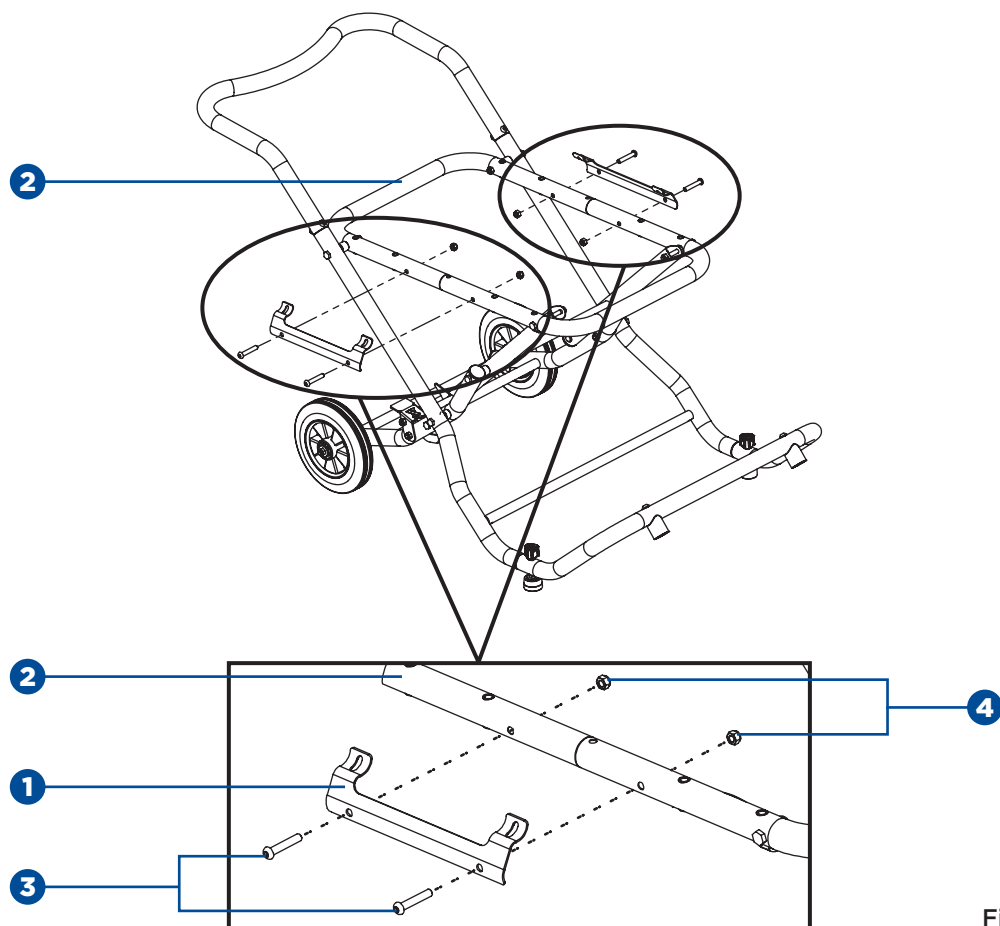

Fig. 5
**TO ASSEMBLE THE SUPPORT A (FIG. 5)**
- Align the holes on the support A (1) with two sides of the tubes of the frame (2).
- Horizontally insert a flat round head screw M8 x 45 (3) through the hole and tighten with a hex nut M8 (4) with 5 mm hex key (supplied).